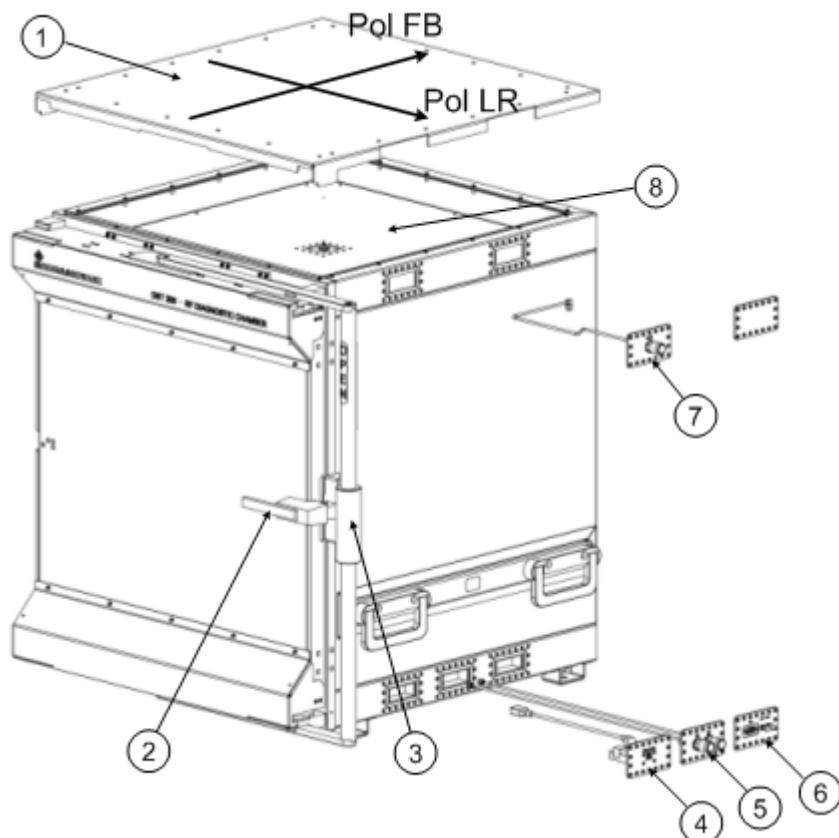

Fig. 3-1: RF Diagnostic Chamber with accessories
The panels are mounted at the positions shown in figure figure 3-1. For more information see chapter 3.2.5, "Mounting Filter and Interface Panels", on page 18.
2. Turn the locking handle to the OPEN position as shown in figure 3-1.